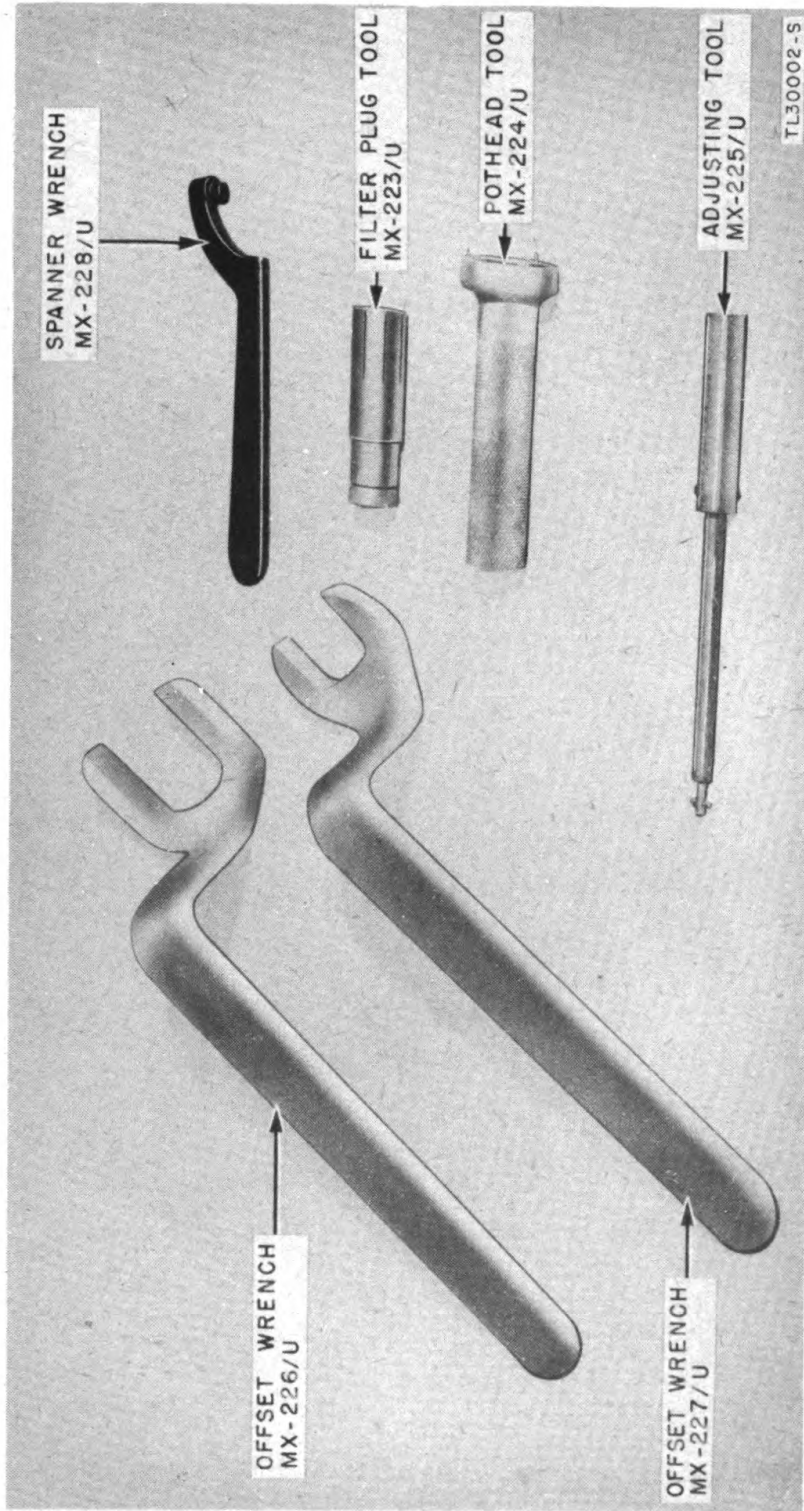

Figure 20. Special tools.
b. Filter Plug Tool MX-223/U (fig. 20). The filter plug tool is made of steel and is $\frac{3}{4}$ inch in diameter and approximately 3 inches long. On one end there are eight axial saw slots, each 1 inch long, spaced equally around the circumference of the tool. A steel bit $2\frac{1}{2}$ inches long, with a screwdriver bit on one end, extends through the outer steel rod. This tool is used to remove the filter plug from the transmission line of Radio Set SCR-545-A.
c. Pothead Tool MX-224/U (fig. 20). This is a steel tool 4 inches long by $1\frac{1}{4}$ inches in diameter with three steel pins, each $\frac{1}{4}$ inch long, spaced 120° apart on the end. It is used to remove the retaining ring in the pothead of Radio Set SCR-545-A.
d. Adjusting Tool MX-225/U (fig. 20). The adjusting tool is a phenolic rod $6\frac{1}{2}$ inches long and $\frac{1}{8}$ inch in diameter. Extending from one end of the rod is a steel rod $\frac{3}{4}$ inch long and $\frac{1}{8}$ inch in diameter with a T-end. The adjusting tool is used to vary the length of the probe within the waveguide line on Radio Set SCR-545-A.
e. Offset Wrench MX-226/U (fig. 20). This is an open-end wrench $\frac{3}{8}$ inch thick and $10\frac{3}{8}$ inches long with the open end offset $1\frac{3}{8}$ inches. It is used to remove the antenna harness coupling on the back of the antenna of Radio Set SCR-545-A.
f. Offset Wrench MX-227/U (fig. 20). This is an open-end wrench $\frac{3}{8}$ inch thick and $10\frac{3}{16}$ inches long with the open end offset $1\frac{1}{16}$ inches. It is used to remove the harness coupling on the back of the antenna of Radio Set SCR-545-A.
g. Spanner Wrench MX-228/U (fig. 20). This tool, J. H. Williams Company type 456-2 or equal, is a standard spanner wrench with a steel pin $\frac{3}{32}$ inch long and $\frac{3}{16}$ inch in diameter on the using end. It is used to uncouple the transmission line of Radio Set SCR-545-A.